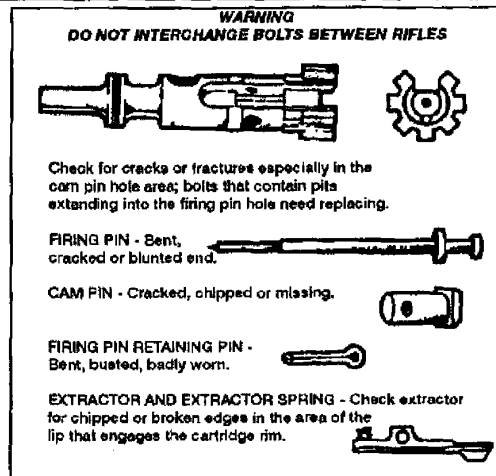

Figure 071-311-2025-23. Inspecting the bolt assembly
- 4. Inspect disassembled rifle bolt assembly (figure 071-311-2025-23).